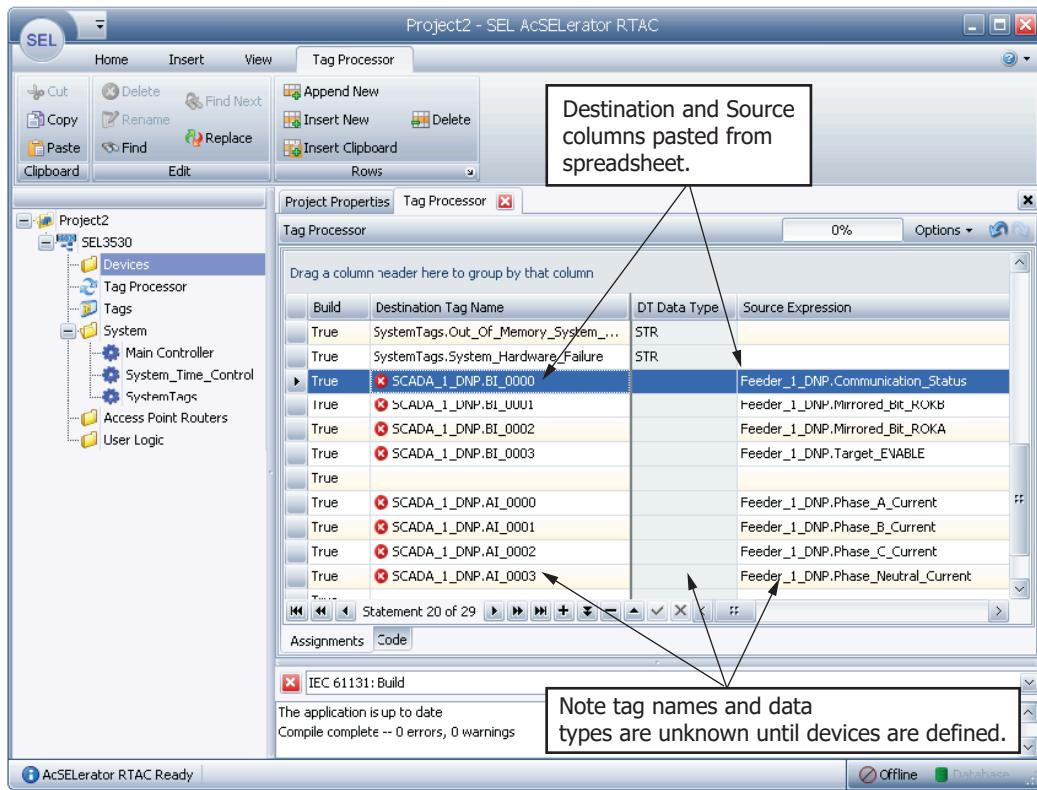

Figure 3.11 Copy/Paste Spreadsheet Tags
- Step 5. The source and destination tags are now mapped, but these tags still do not exist in the ACSELERATOR RTAC database. Note in *Figure 3.11* that ACSELERATOR RTAC does not fill out the source and destination data types because the tags are not yet defined. A appears beside each undefined tag.